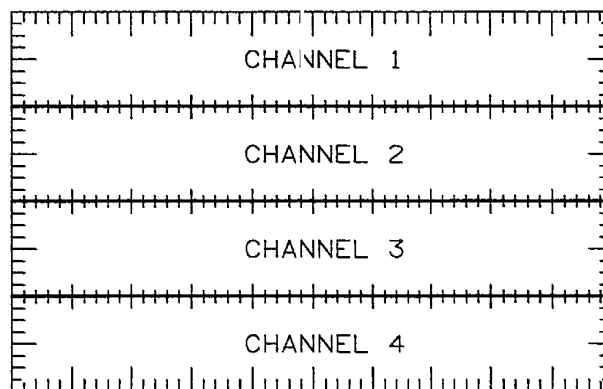

Figure 3-32. Quad Screen Display
- 4: the display is divided into four equal screens with one waveform displayed in each screen (See figure 3-32).